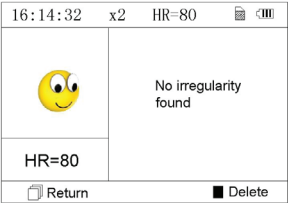

Figure 3-14
3. Press "  OK" button again, the measurement result of the selected record will be reviewed on the screen, as shown in Figure 3-14.